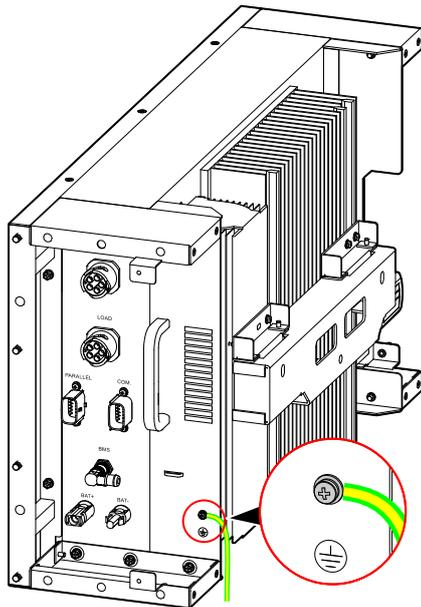

Figure3-29 Inverter external grounding connection
- Step 2 Connect the wires of the inverter, as shown in Figure3-29 .